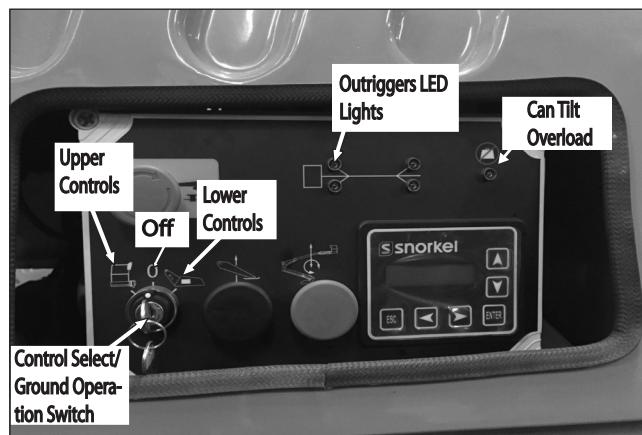
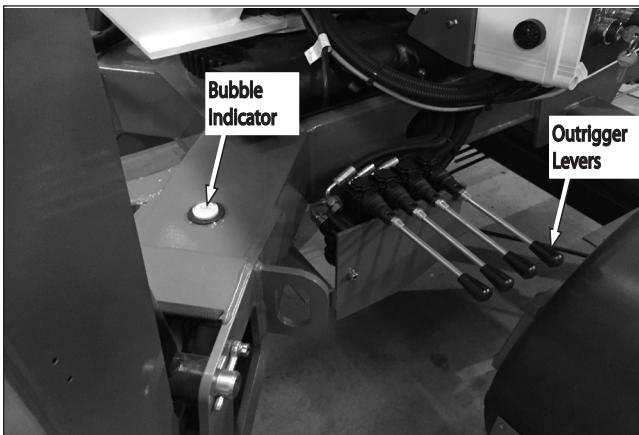

Figure 4.2 - Control Select Positions
Figure 4.3 – Outrigger Location & Bubble Indicator
The switch controlling operation of the machine is split into 3 categories namely the upper controls position, the Off position and the lower controls position as shown in Figure 4.2
The LED lights at the lower control station as shown in Figure 4.2 are indicators for outrigger stability.
- Set the key switch as shown on Figure 4.2 to the lower controls position.
- Pressing down on the outrigger raise/lower button as shown in Figure 4.2, drop or raise the outriggers using the outrigger raise/lower levers as shown in Figure 4.3.
The bubble indicator as shown in Figure 4.3 must be used always to ensure the aerial platform is level on the ground and safe to use. The Cantilt alarm will sound and the LED on the Lower Controls will flash if the machine is out of level.